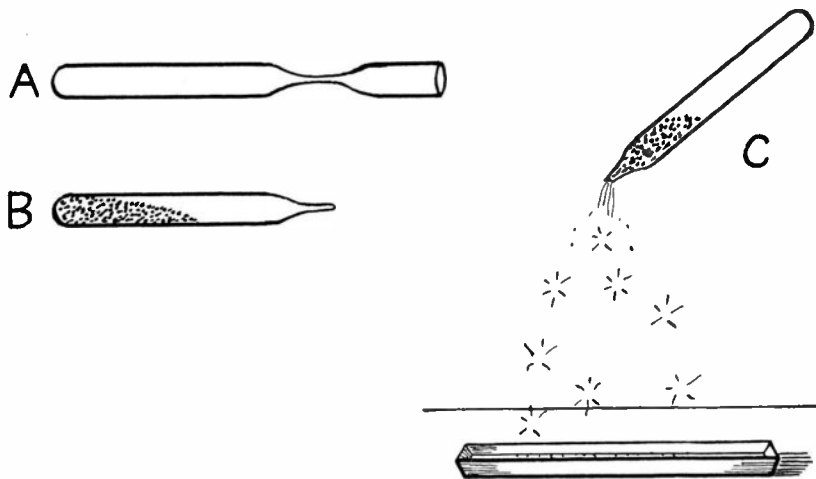

Fig. 2—Spontaneous combustion of iron powder
Close the end of a short length of glass tubing in a gas or spirit lamp flame and draw out the other end, as shown in Fig. 2 (A). Put some ferrous oxalate into the tube, heat it until it is wholly blackened and then seal the tube by softening the narrow part in a flame and drawing off (B). When the tube and contents are